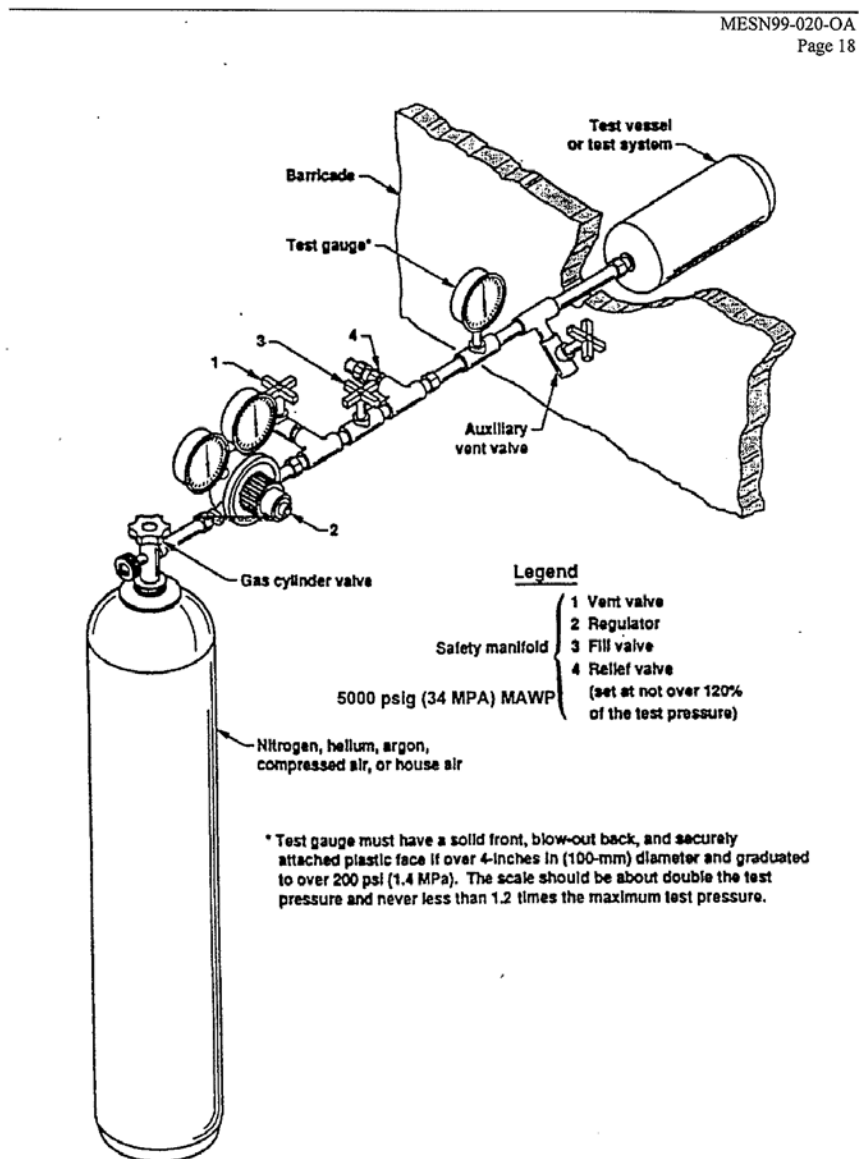

Figure A1 – Gas Test System
See figure A1 below for the test apparatus layout
2. Assemble remote gas cylinder, regulator(RT), test gauge(GT), test isolation valve(TV), vent valve(VV), fill valve (VF) as shown in fig. A1 above, and locate around corner from experiment, out of line sight, and behind wall of cabinets. Survey for, and remove any hazardous material (such as radioactive sources, flammable liquids, glassware, etc.) from line of sight to test area. Have fire extinguishers on hand.